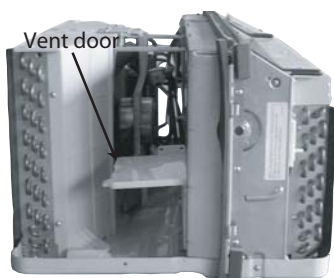

Figure 20. Vent (left side of unit)
3. Slide the chassis out of the wall sleeve far enough so that the vent filter is accessible as shown in Figure 20.